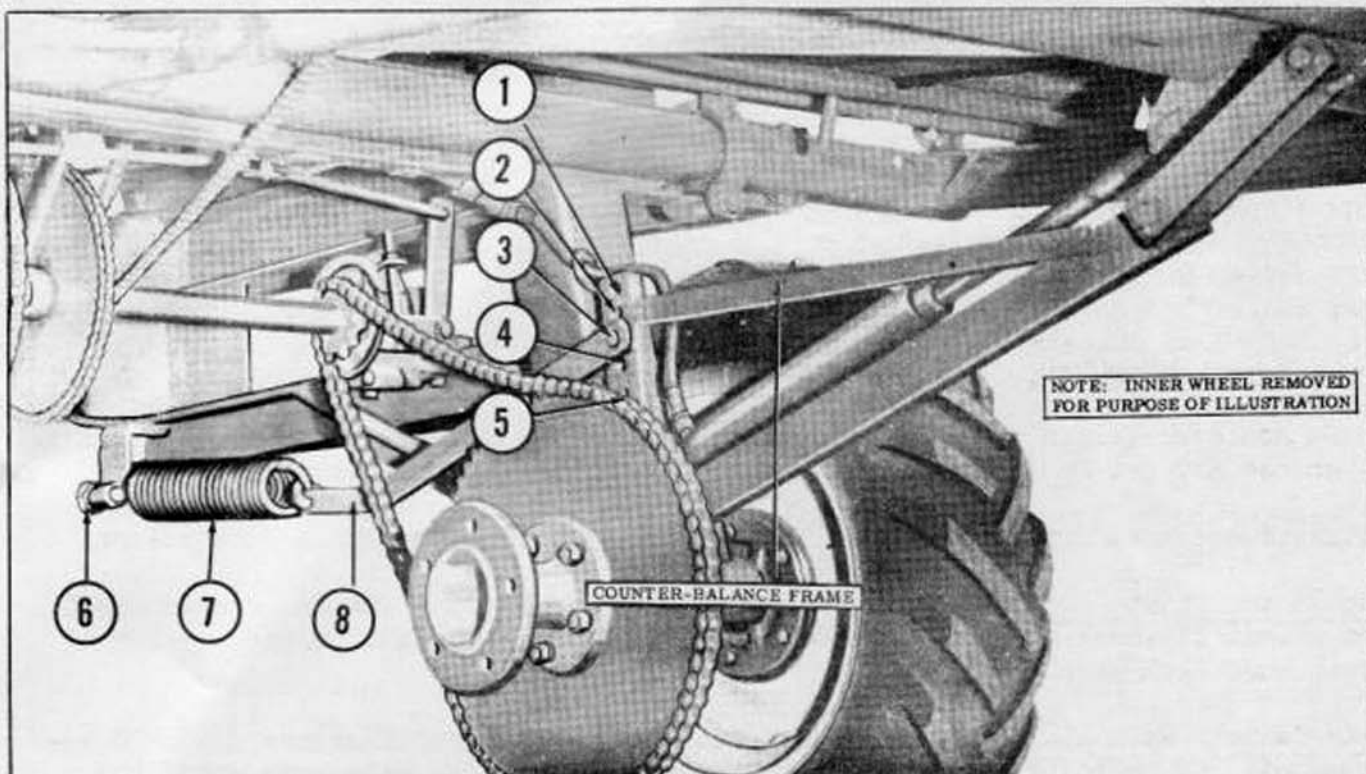

Figure 7
Header Counter-Balance Connecting Link: To obtain proper counter-balance of the header, a series of holes is provided in the counter-balance frame (see Figure 7). Depending on the size of the head being used, the connecting link (8) should be attached to the proper hole in the frame linkage as shown in Figure 7 and the following chart.
Header Counter-Balance Springs: The two counter-balance springs (see 7, Figure 7), on the rear of the header should be tightened or loosened by means of the bolt (6) so that the header has the desired floating action under varying field conditions.